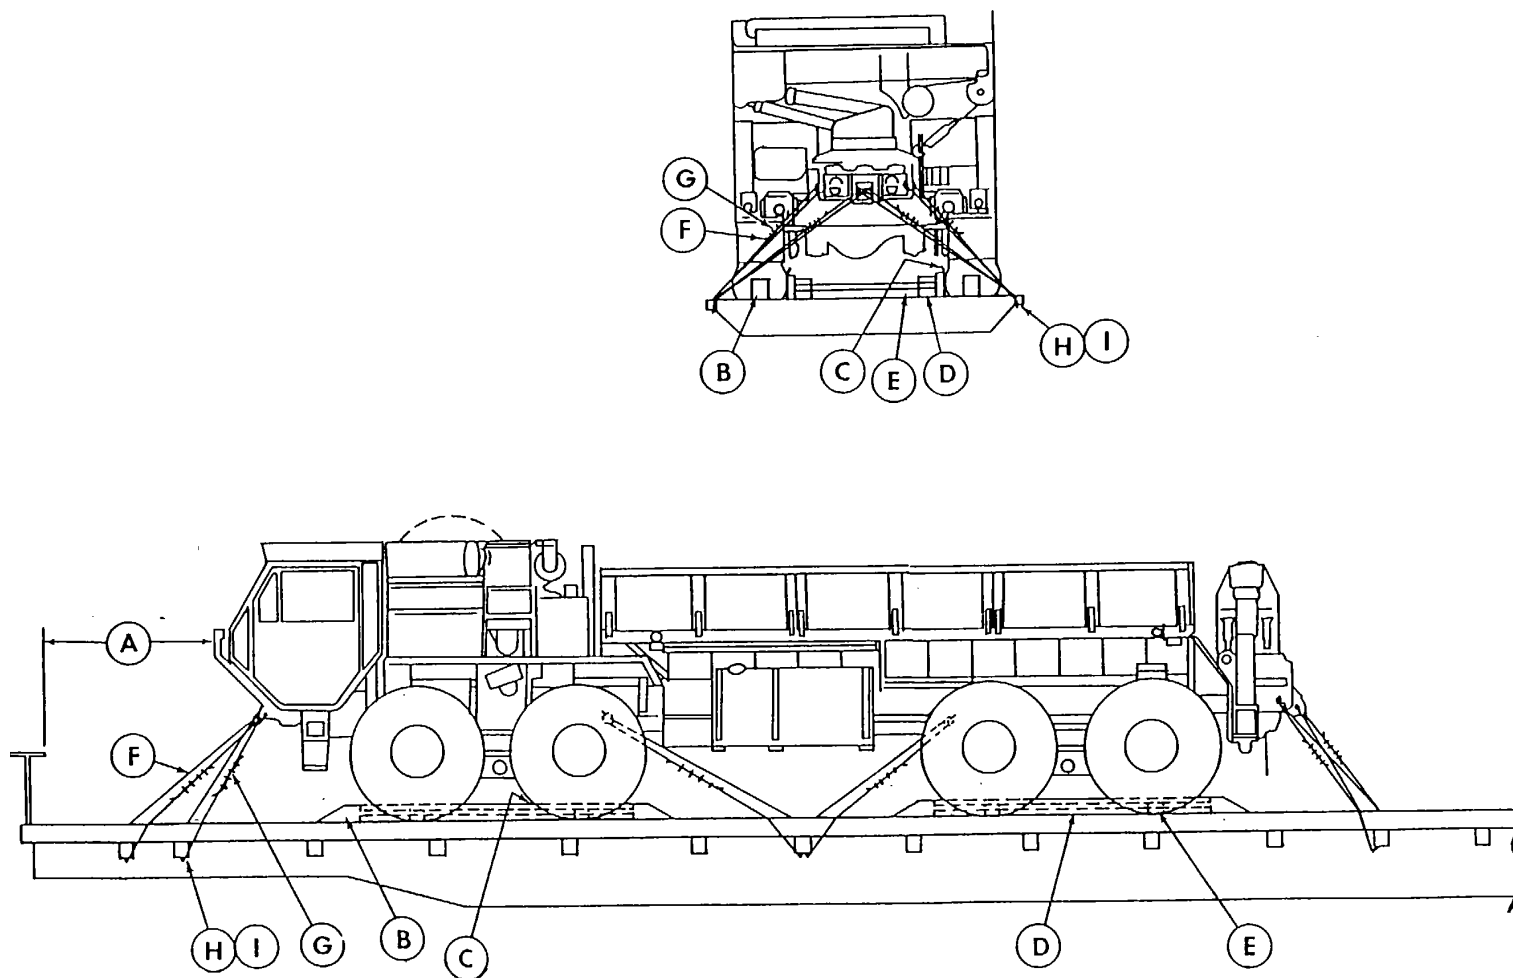
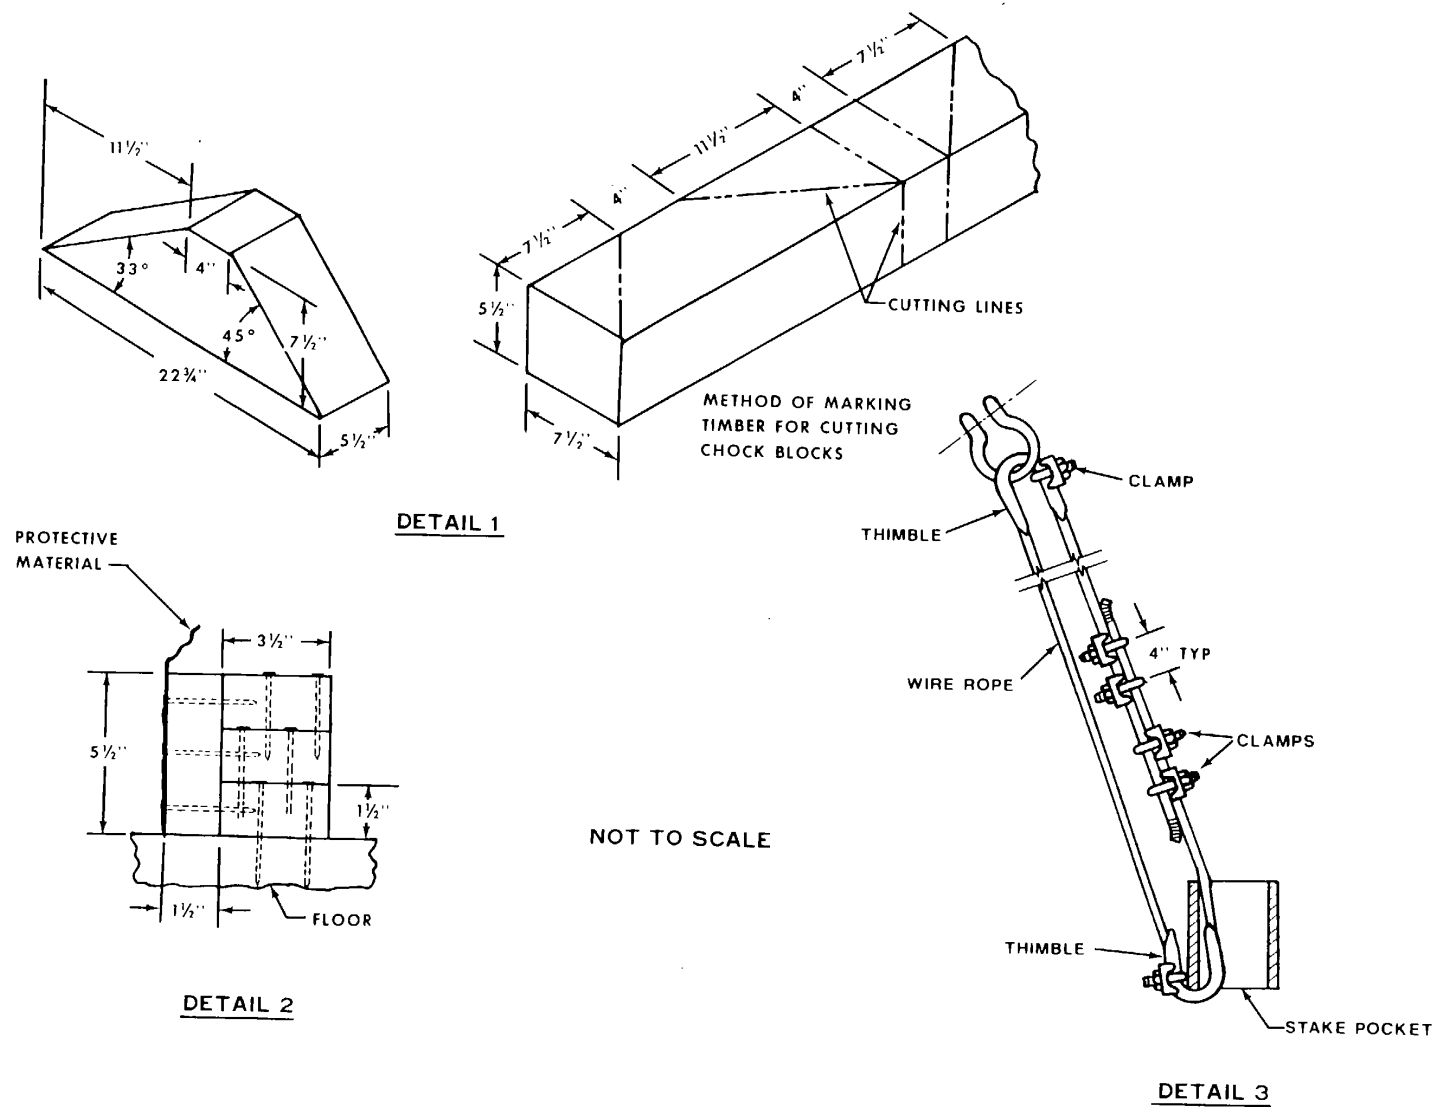

Figure 7-1. Blocking and tiedown of the M985E1, M983, or M977 vehicles on CONUS general-purpose flatcars.
Figure 7-2. Blocking and tiedown details (fig. 7-1).
minimum flatcar width of 9 feet 6 inches for all items associated with the PATRIOT system except the M373A2, LS, and RS. M373A2 semitrailers should be shipped on trailer-on-flatcar (TOFC) railcars when practical. The LS and RS require a flatcar width of 10 feet 4 inches. For rail transport, the RS is removed from the M860A1 semitrailer and the AMG and ECS are removed from the truck and placed on a flatcar. Figure 7-1 through 7-12 provide tiedown diagrams that are compatible with standard loading practices for adequate restraint. Where necessary, blocking and tiedown details are shown. The bill and application of materials for blocking and tiedown are provided in tables following the respective figures.
- b. Figure 7-1 shows the typical loading of the PATRIOT system HEMTT vehicles onto general purpose flatcars. Blocking and tiedown details are shown in figure 7-2. The bill and application of materials for blocking and tiedown are provided in tables 7-1 and 7-2, respectively.
Table 7-1. Bills of Materials for Blocking and Tiedown of the M985E1, M983, or M977 Trucks on CONUS General-Purpose Flatcars (Figs. 7-1 and 7-2)
Table 7-2. Application of Materials for Blocking and Tiedown of the M985E1, M983, or M977 Trucks on CONUS Flatcars (Figs. 7-1 and 7-2)
Table 7-2. Application of Materials for Blocking and Tiedown of the M985E1, M983, or M977 Trucks on CONUS Flatcars (Figs. 7-1 and 7-2)Continued
Blocking and tiedown details are shown in figure 7-2.
Table 7-3. Bill of Materials for Typical Blocking and Tiedown of the 5-Ton Trucks and Truck-Tractors Used in the PATRIOT Missile System on CONUS General-Purpose Flatcars (Figs 7-2 and 7-3)
Table 7-4. Application of Materials for Typical Blocking and Tiedown of the 5-Ton Trucks and Truck-Tractors Used in the PATRIOT Missile System on CONUS General-Purpose Flatcars (Figs 7-2 and 7-3)
Table 7-4. Application of Materials for Typical Blocking and Tiedown of the 5-Ton Trucks and Truck-Tractors Used in the PATRIOT Missile System on CONUS General-Purpose Flatcars (Figs 7-2 and 7-3)-Continued